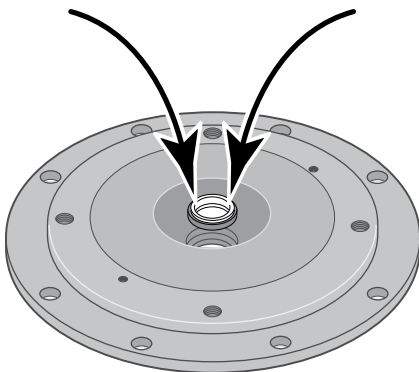

Figure 18: Press in New Seal
3. Put clean cardboard washer on seal face. With thumb pressure, press ceramic seal half firmly and squarely into seal cavity (See Figure 18). Polished face of ceramic seat is up. If seal will not seat correctly, remove, placing seal face up on bench. Reclean cavity. Seal should now seat correctly.